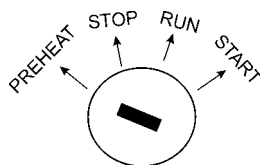

Figure 42. Key Switch (Preheat)
7. Turn the starter switch to 'PREHEAT' (Figure 42) until the indicator light turns on. The oil pressure indicator light will initially turn on, but should turn off once the pressure rises.